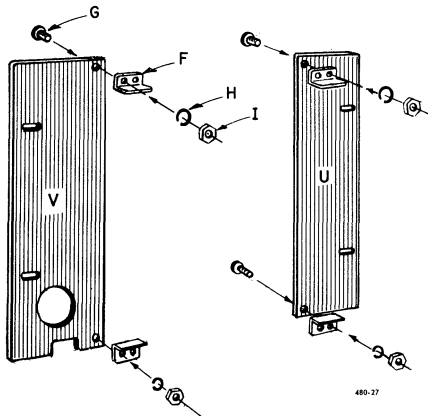

Figure 2-5. Subassembly of rack adaptor plates.
- a. Release the two end-frame attaching screws (D) at the left-hand edge of the oscillator.
- d. Install clips (F) on panels (U) and (V), using screws (G), lockwashers (H), and nuts (I) supplied (Figure 2-5).